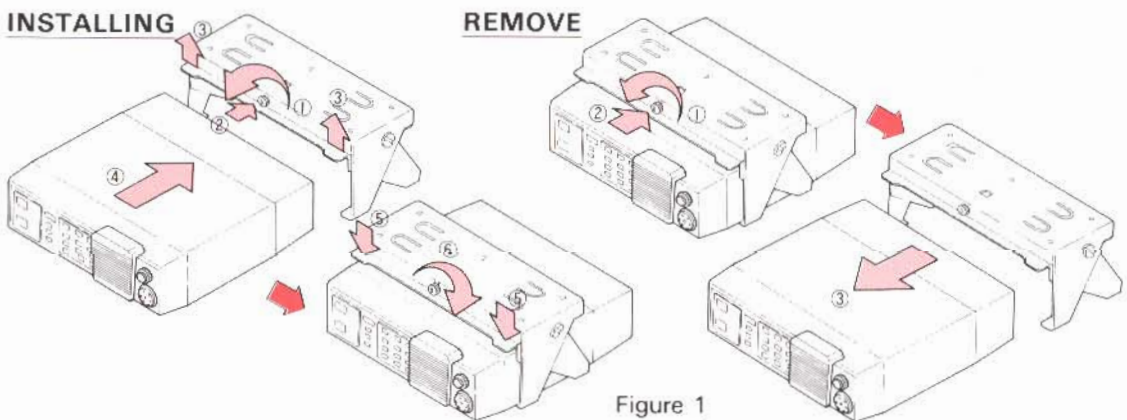

Figure 1
### (4) Installing the main unit (See Figure 1)